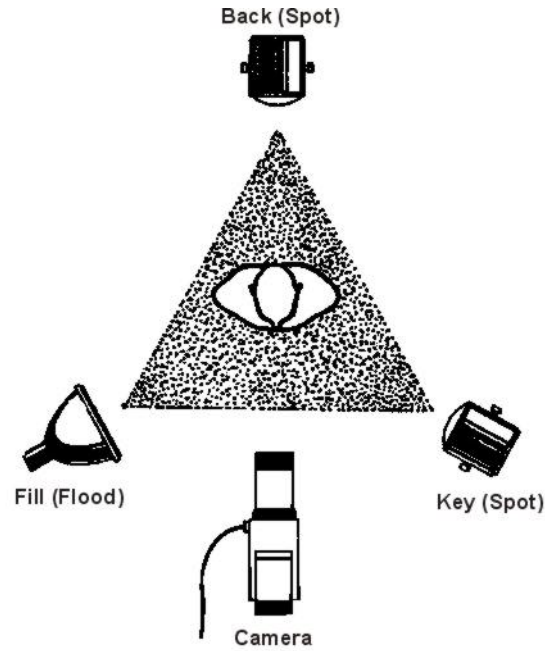

Figure I-4. Basic Photographic Principle
a. Three-point lighting is the basic photographic principle used in any type of lighting set up. (See Figure I-4.) Note the camera is centered, and the light fixtures are at 45-degree angles to each other. As you can readily see, the three principal lights (key (spot), back (spot), and fill (flood)) form a triangle with the backlight as its apex, opposite the camera.